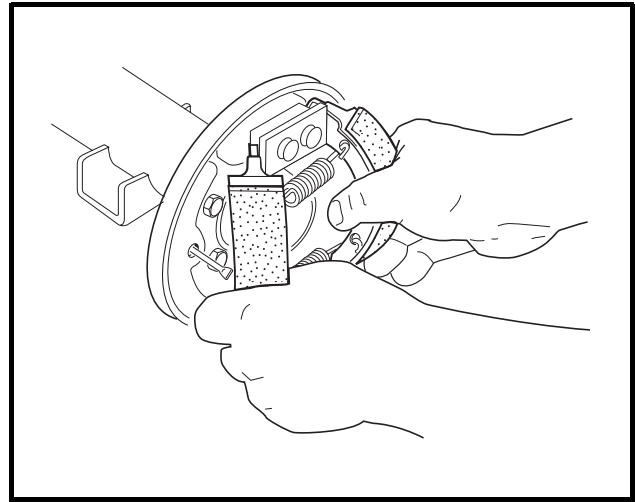

Figure 6-6 Remove Brake Shoes
8. Grasp both brake shoes and pull them, together with the springs, out of the brake assembly as shown (Figure 6-6, Page 6-4).